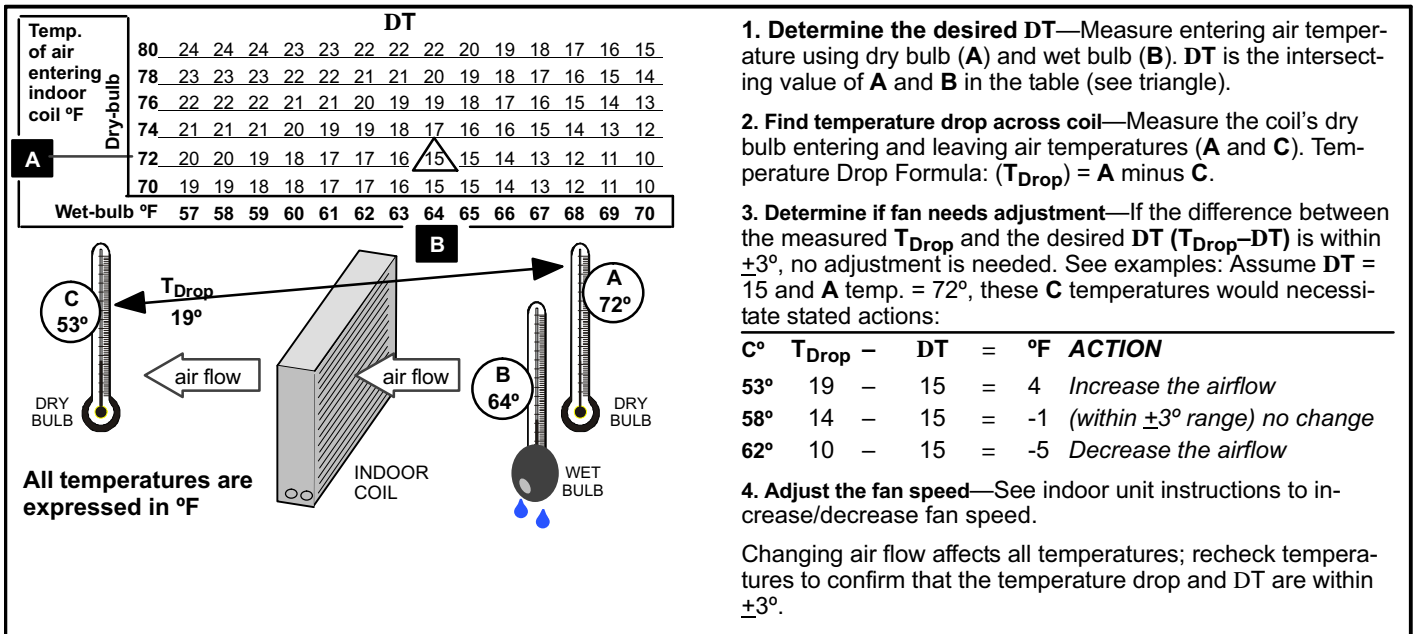

FIGURE 17
Check airflow using the Delta-T (DT) process using the illustration in figure 17.